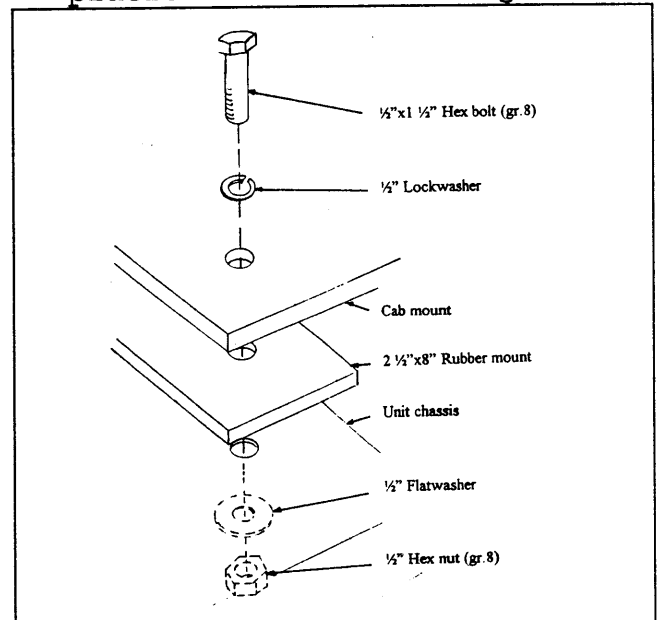

Figure 2
platform. Lift the front of the ROPS approximately ½" off the platform. Slide one of the 2 ½"x8" rubber mounts (2) under each of the ROPS mounts. Lower the ROPS until the ROPS mounts rest solidly on the rubber mounts. Bolt the ROPS to the platform as shown in figure 2.